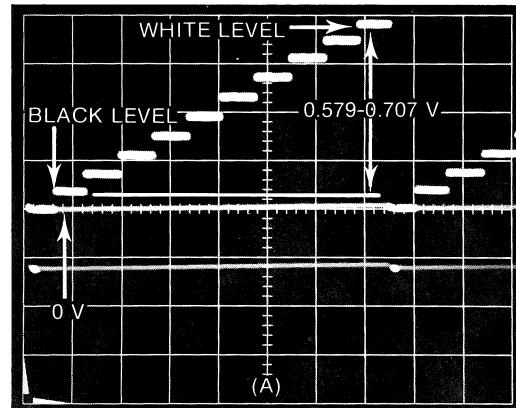

Fig. 2-11. Composite Video waveform for the 10 step gray scale function, with VIDEO POLARITY button (A) OUT-NORMAL and (B) IN-INVERT.
b. Switch the 067-0690-00 to 50% FLAT FIELD. Adjust R217 for no shift in background level while reversing VIDEO POLARITY. Push the 10 Grayscale button, and adjust R38 for an amplitude of 0.579 to 0.707 V from the black to the white step (Fig. 2-11).